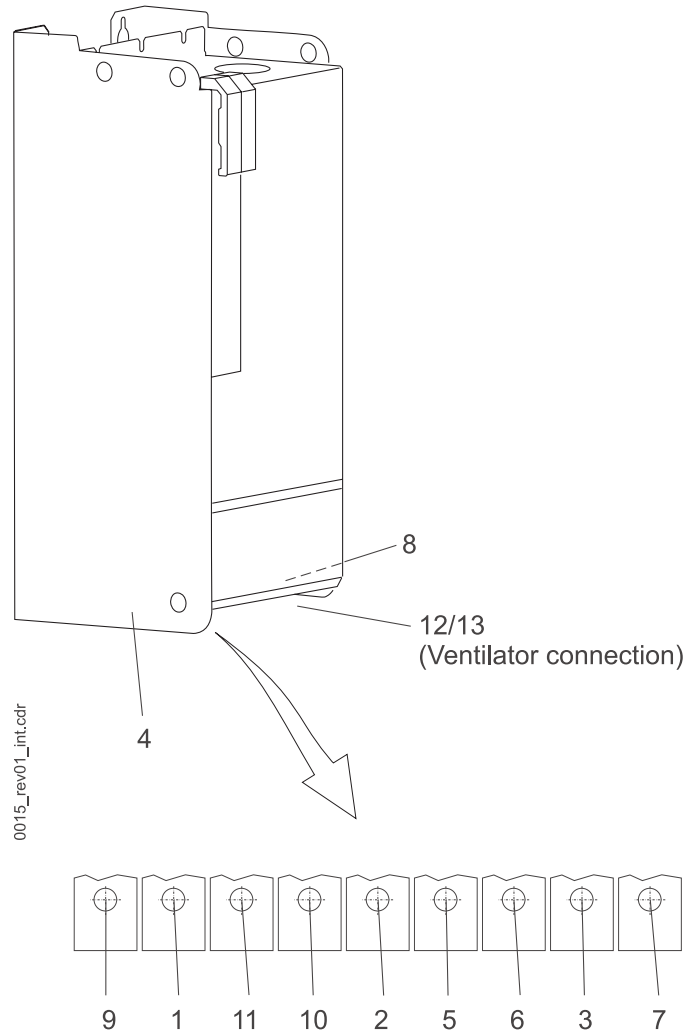

Figure 10: Power connections
Power connection are on the bottom side of the device (see >Figure 10< on page 45).
1) Position, see ►Figure 10◄ on page 45.